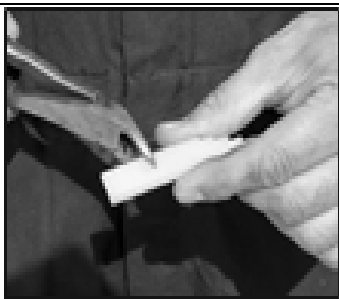

Fig. 1
Step 1. Trim referencing gauge to proper length, being sure not to cut the "stepped" portion. (Fig.1) Proper gauge length is determined by chamber size, type and maximum stroke at which brakes should be readjusted. (See chart)